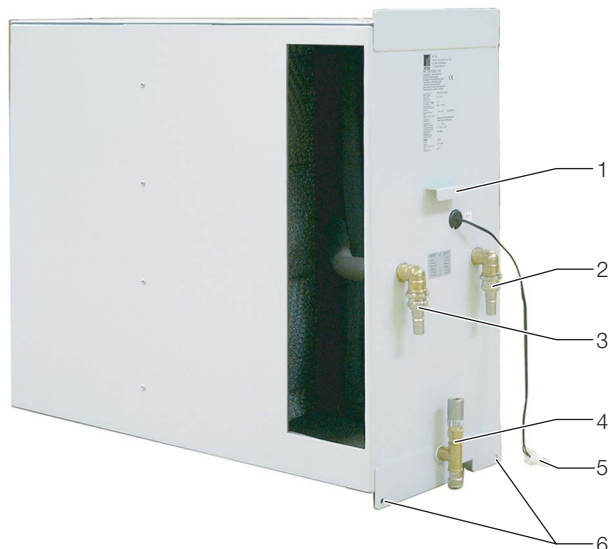

Fig. 30: Heat exchanger module of an LCP module
- Loosen the cooling water hose quick release fasteners from the inlet and return cooling water connections on the front side of the LCP module (Fig. 30, Pos. 3 and Pos. 2). To do this, pull back the fastener pocket stay (Fig. 31, Pos. 2) from the cooling water connection (Fig. 31, arrow) before you pull the entire fastener down from the plug-in nipple (Fig. 31, Pos. 1).
- Loosen the condensate discharge hose quick release fastener from the lower connection of the condensate discharge the front side of the LCP module (Fig. 30, Pos. 4). To do this, pull back the stay (Fig. 32, Pos. 2) from the condensate discharge hose's plug-in nipple (Fig. 32, arrow) in order to pull the hose off downwards.
- Pull out the connector on the control cable of the temperature sensor (Fig. 30, Pos. 5).
- Loosen both assembly screws on the front side of the heat exchanger module and, using the handle, pull the module (Fig. 30, Pos. 1) a ways out of the module plug-in.
- Pull out the earthing connector on the top side of the heat exchanger module and, using the handle, pull the module (Fig. 30, Pos. 1) completely out of the module plug-in.